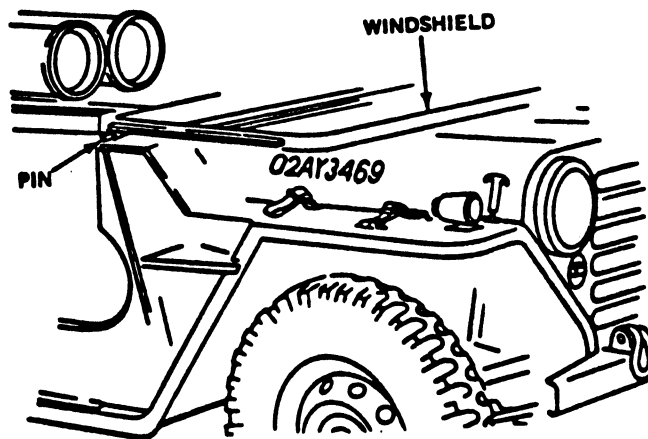

Fig 4-24. Securing vehicle windshield.
Step 1. Lower the vehicle windshield and secure it to the hood with the pins (fig 4-24).